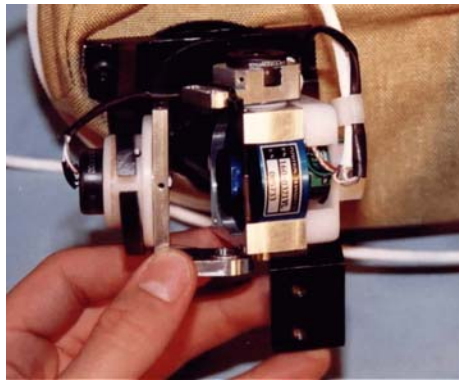

Figure 17.8- Insert bushing into hole in bracket
7. Insert the Rotary Bushing (T1DPM211) and Yoke Axis Rotary Potentiometer (T1DPM210) through the 1.25" diameter hole of the left attachment bracket, as shown in **Figure 17.8**.